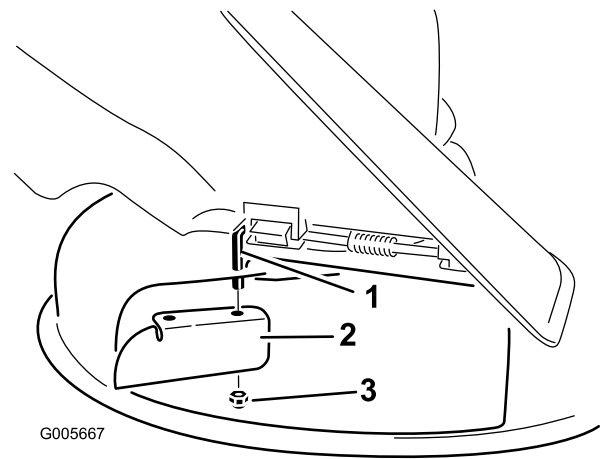

Figure 21
7. Install the cutoff baffle to the exposed pivot rod (Figure 21).
3. Remove the cutoff baffle from the mower deck (Figure 21).